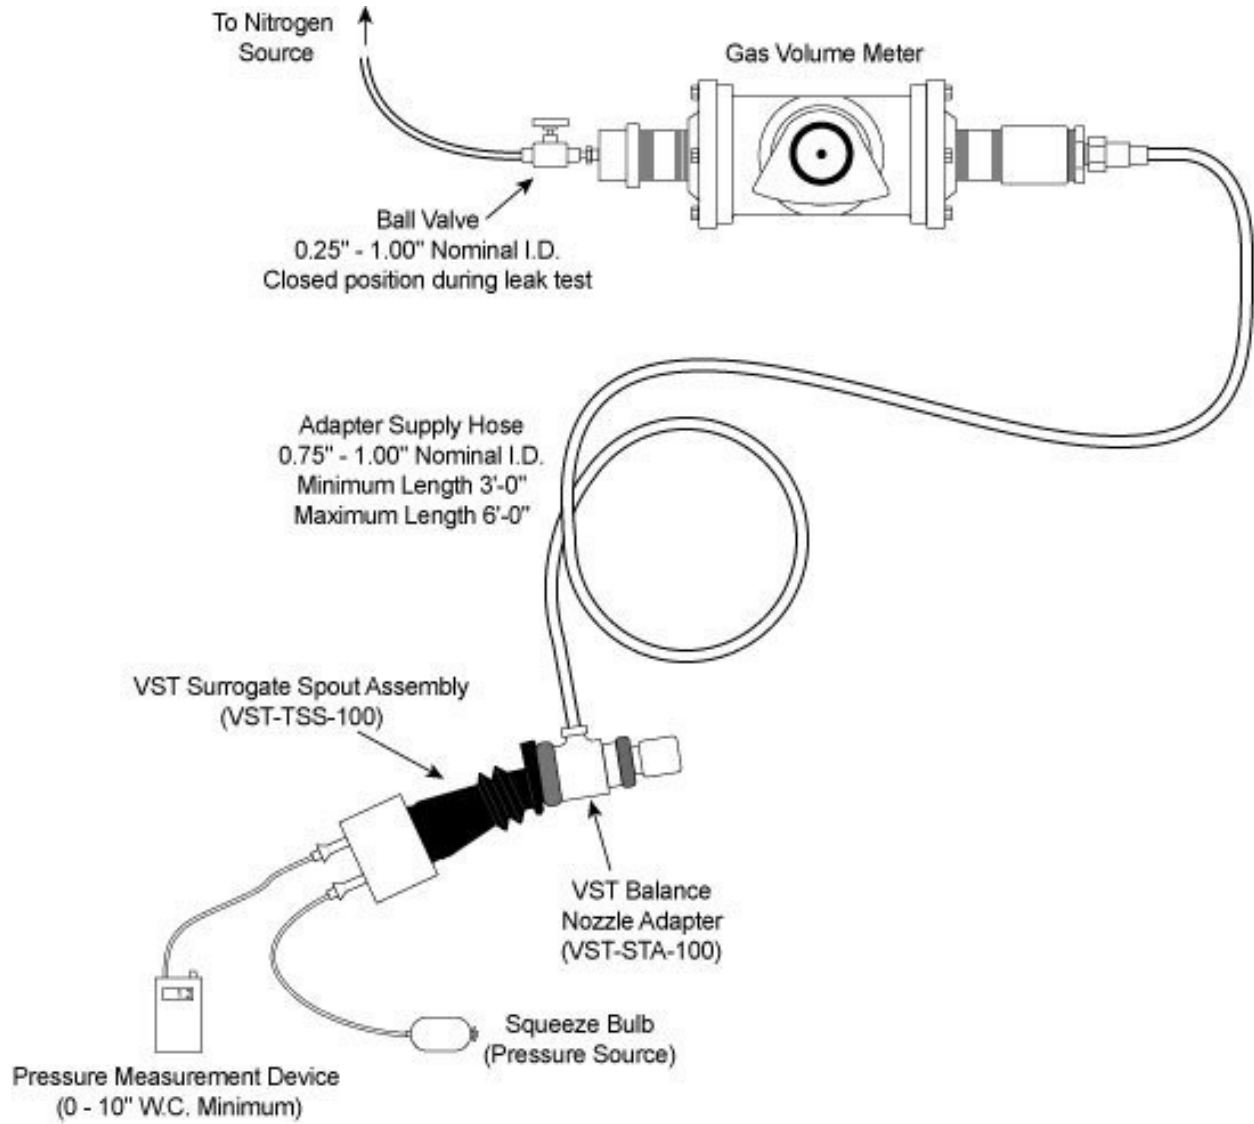

FIGURE 17-1B
- 2.6. **Surrogate Spout.** Use the correct Surrogate Spout Assembly listed below to conduct the pre-test leak check. Figure 17-1A shows the VST Surrogate Spout Assembly and Figure 17-1B shows the EMCO Wheaton Retail Surrogate Spout Assembly.
- 3.4. Conduct a pre-test leak check of the Balance Nozzle Adapter, the gas volume meter and the adapter supply hose by connecting the Balance Nozzle Adapter to a surrogate spout as shown in Figure 17-1A or Figure 17-1B. Turn the ball valve in Figure 17-1A or Figure 17-1B to the closed position. Raise the test pressure to 5.00" \pm 0.50" WC using a squeeze bulb. There shall not be a pressure drop of more than 1.00" WC from the above starting pressure for 30 seconds from the start of the test. If the leak test passes, proceed with the testing. If the leak test fails, proceed to isolate the source of the leak by pressurizing the test equipment again. Squirt liquid leak detector solution on interfaces and other potential leak sources